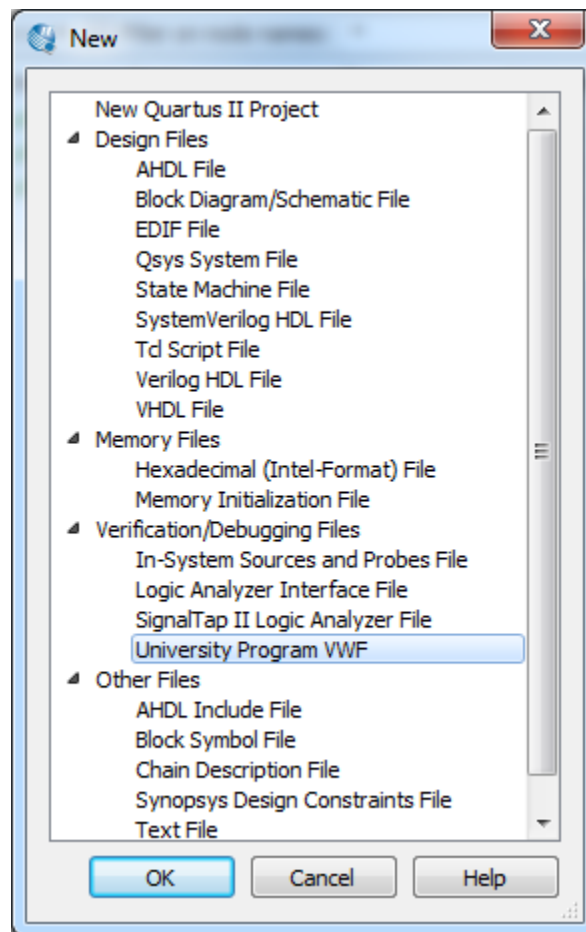

Figure 17: Need to prepare a new file
- i) Open the Waveform Editor window by selecting **File > New**, which gives the window shown in Figure 17. Choose **University Program VWF** and click **OK**.